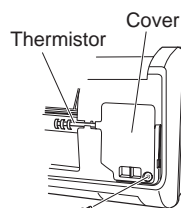
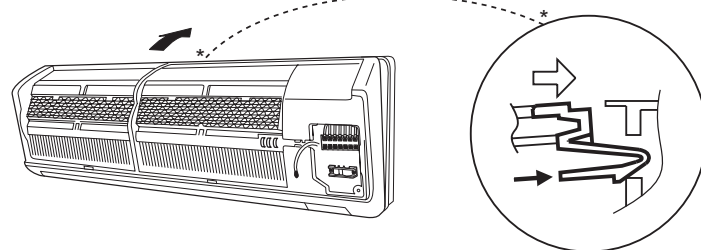

Fig. 10a
Fig. 11b
- (3) Remove the screw on the right side cover plate and open the cover. (Fig. 10a)
- (6) Use a standard screwdriver to push on the tabs to remove the grille. (Fig. 11b)
- (1) Reinstall the grille into the lower part while aligning its tabs on the upper part. (Fig. 11b) Insert the tabs in the slots and push the lower part of the grille back into position.
- (2) Make sure that the grille and frame are firmly fitted together by engaging the tabs.
- (3) Attach the thermistor on the grille. (Fig. 10a)
- (4) Close the cover and replace the screw. (Fig. 10a)